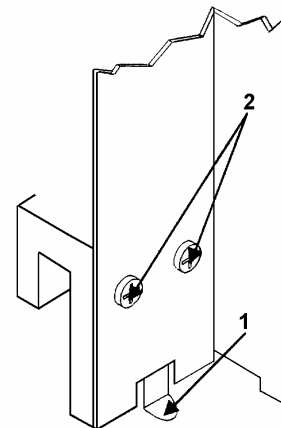

Figure 11
1. Misfeeding may occur if the clips extend too far under the envelopes. First increase vacuum and test run; then, if required, move clip [#1, Fig. 11] to the front using set screw behind them.
The vertical position of the clips is also adjustable. Loosen two screws [#2, Fig. 11] and position the bottom of the clip flush with the bottom of the guide.